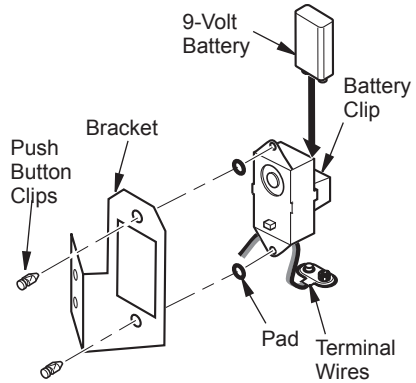

Figure 20 - Installing Remote Receiver
8. Install remote receiver into receiver bracket using pads and push button clips provided with receiver (see Figure 20).
2. Locate the battery clip mounted on the back of the receiver (see Figure 20).